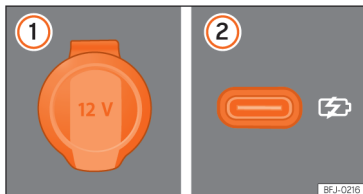

Fig. 143 ① 12 volt socket. ② USB socket on the rear part of the centre console.
- Lift the power socket cover »» Fig. 143 ①.
These USB ports are located in the rear part of the centre console, between the front seats »» Fig. 143 ②. These connectors can work at a maximum power of up to 10.5 W per port.